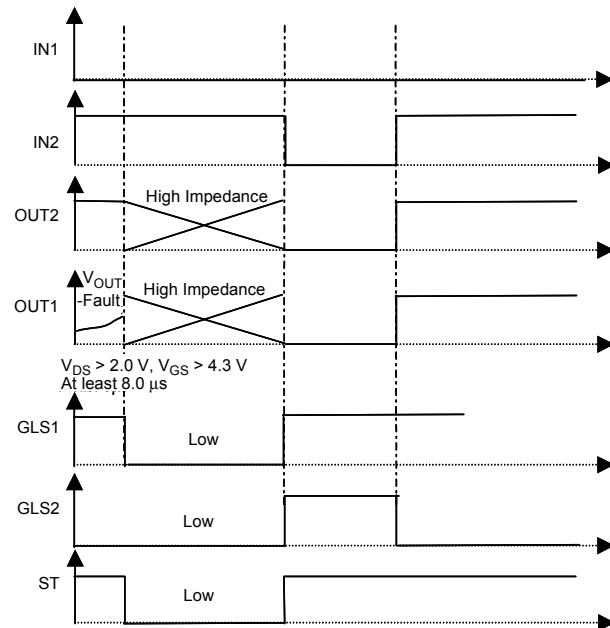

Figure 22. Overload on Low-Side 1
- When a short to V_{BAT} of one of the low-side MOSFETs occurs, both outputs are opened to prevent the motor from running. Once the low-side overcurrent is removed, the input IN_n of the output that experienced the fault must be reset in order to recover the normal operation mode. Figure 22. Overload on Low-Side 1, page 18, shows an example. If an overload happens in low-side 1, OUT1 and OUT2 are both put in high impedance. IN2 must be reset to recover normal mode.